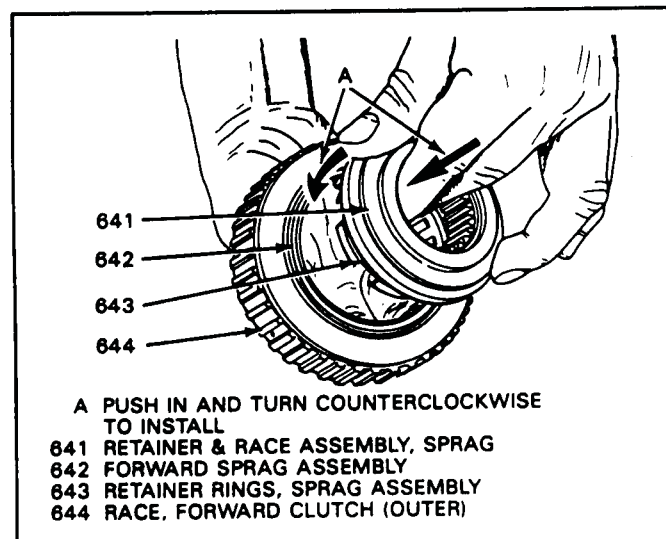

Figure 120
4. Install wear plate onto the inner race and install the inner race into the sprag assembly by pushing in and turning to the left (See Figure 120).